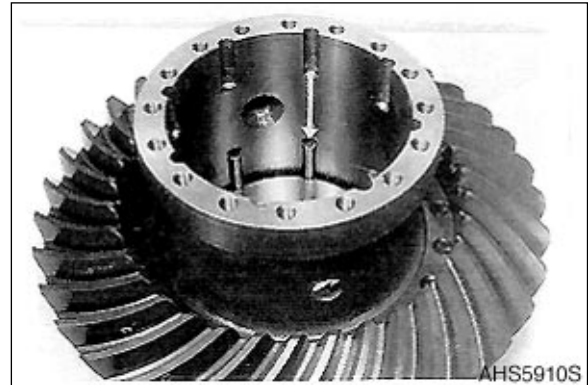

Figure 217
- Insert drive pin, see Figure 217.